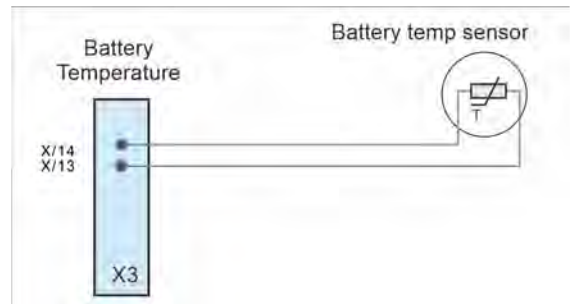

Figure 9.5 Battery temperature sensor
2. Connect the cable to X3 terminals 13/14 as shown in Figure 9.5. These connections are not polarity sensitive.